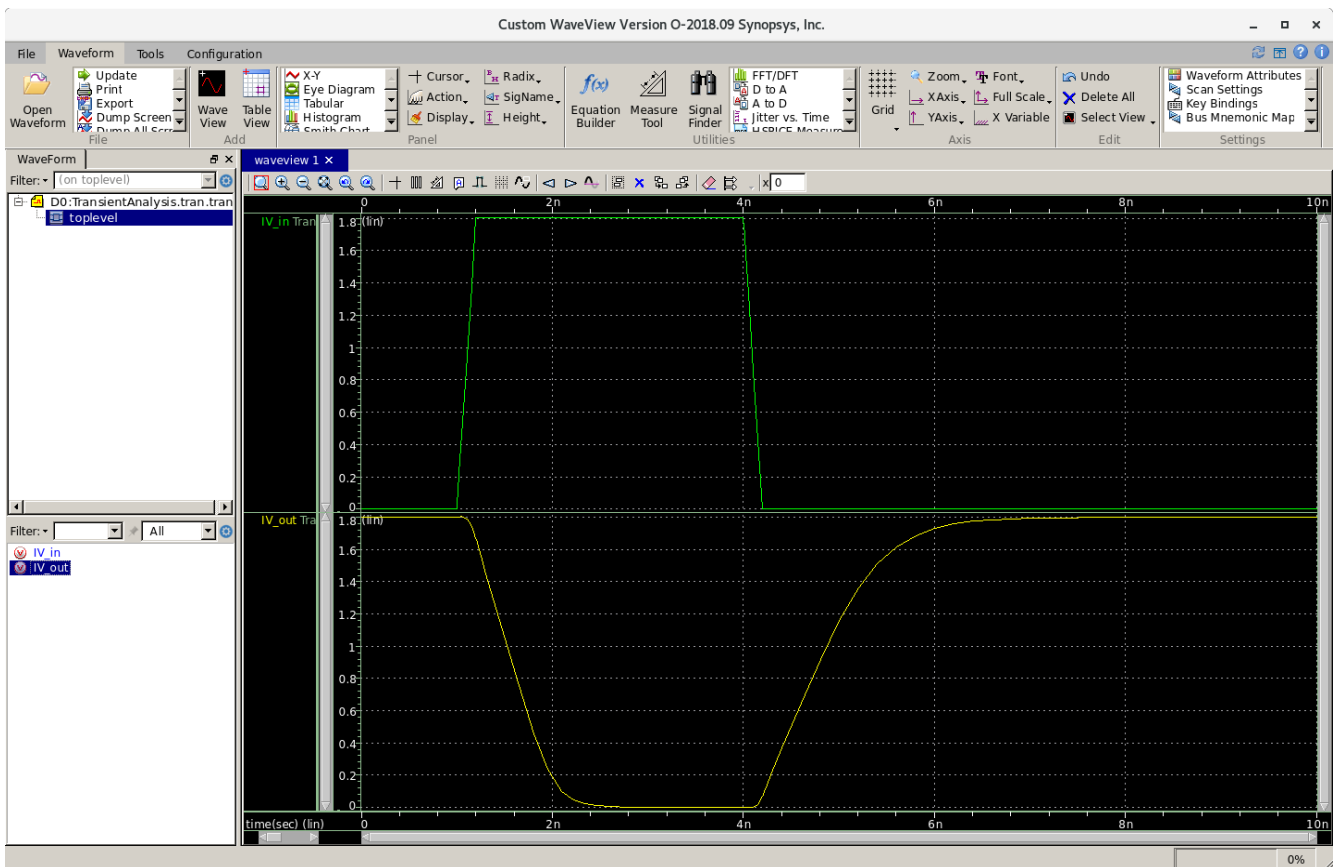

Figure 2. Waveform display
- Next we use the waveform to compute delay as shown in Figure 2. In general, **delay is defined as the time from 50% point of the input waveform to 50% point of the output waveform**. In this lab, since the VDD is set to 1.8v, you can use 0.9v as 50% point for both input and output waveforms. Note the input node is IV_in and the output node is IV_out.